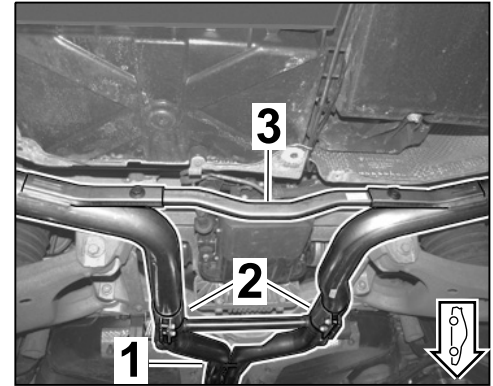

Figure 33
- 5.2.3 Install new transverse strut with a new hexagon-head bolt (M8 x 25, 2 ea.) and square nut (M8, 2 ea.) between the left and right rear muffler (elbow facing down) (⇒ Figure 33).